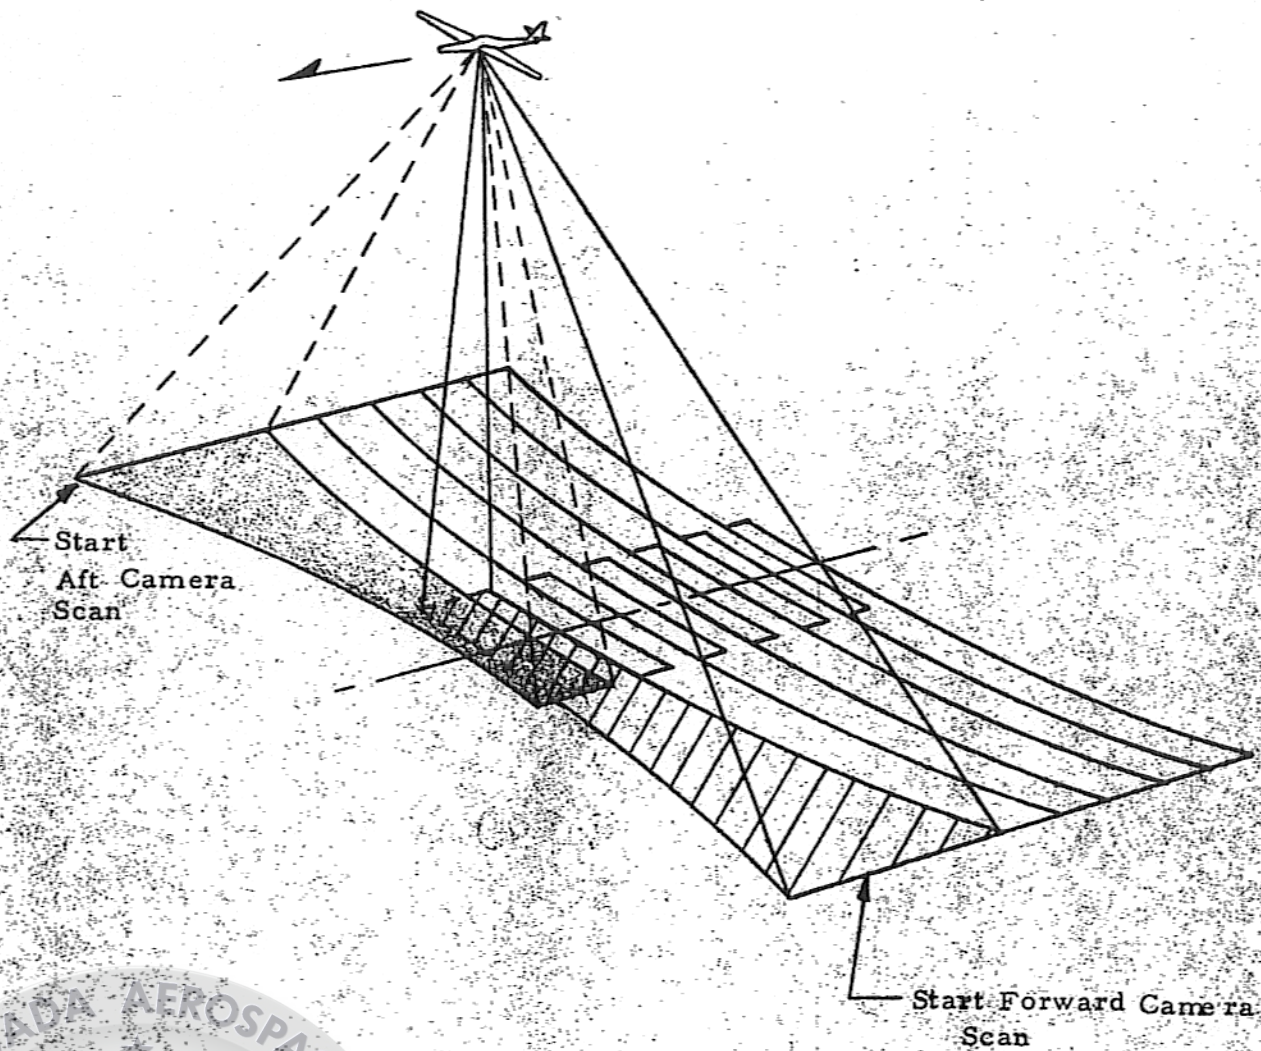

Figure 1-2. Aerial Panoramic Photography, Type I
- 1-6. Photographic coverage of the camera system is represented in Figure 1-2. The forward optical system scans the earth from  $67^{\circ}$  to the left of nadir to  $21^{\circ}$  to the right of nadir. The aft optical system scans the earth from  $21^{\circ}$  to the left of nadir to  $67^{\circ}$  from the right of nadir. Each mission can provide 2500 nautical miles of flight line coverage on 1980 frames and 60 to 75 nautical miles (or  $134^{\circ}$ ) total transverse coverage. The scan overlap provides full stereo viewing of mission results for all points on each frame format. See figure 1-3.